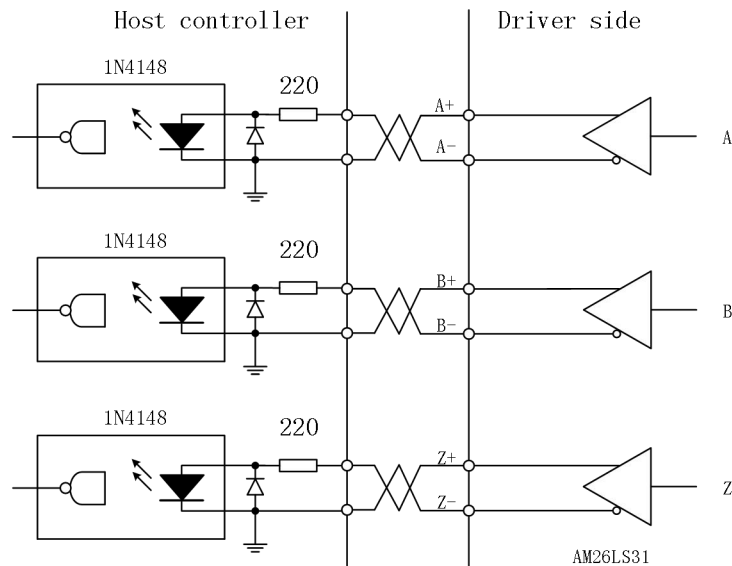

Fig. 2-10b: Type5 Output Signal of Photoelectric Encoder
5. The input end of controller may be an optocoupler for the receiving purpose, but high-speed optocoupler (e.g. 6N137) (as shown in Figure 2-10b) must be used;